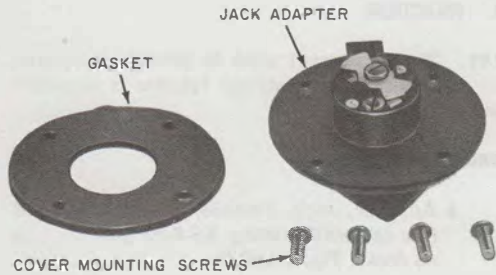

Fig. 1—B Weatherproof Female Jack Adapter
- Adapter, Jack, Female, Weatherproof, B (for use with existing KS-8421 jack housing on docks, Fig. 1 and 2)
2.02 The B weatherproof female jack adapter (Fig. 1 and 2) is mounted on an existing KS-8421 jack housing after the old jack and front plate are removed. It will receive the male plug of the B weatherproof cord to provide service to recreational vehicles or boats. A spring-loaded hinged cover protects the jack from weather when
Note: If existing KS-8421 jack housing at utility pad is to be used, one B weatherproof female jack adapter (Fig. 1) is required instead of the B female jack, and only one B outlet box is required.
Note: If existing KS-8421 jack housing at dock is to be used, one B weatherproof female jack adapter (Fig. 1 and 2) is required instead of the B weatherproof female jack and the B outlet box is not required.